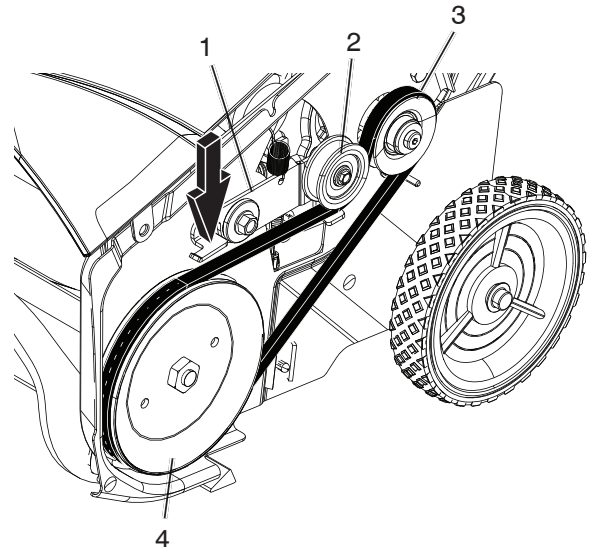

Figure 32
4. Install the new drive belt, routing it as shown in (Figure 32).
NOTE: Route the new drive belt first around the engine pulley, then the idler pulley, and finally around the drive pulley while pressing down on the front of the idler arm. (Figure 32).